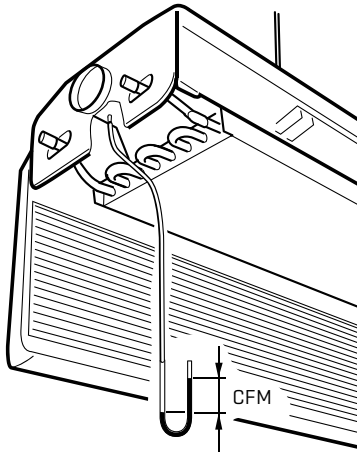

FIGURE 16
- 1) To see if the energy control needs to be adjusted, first, check the NOVA II IQFI's air pressure. (See FIGURE 16)